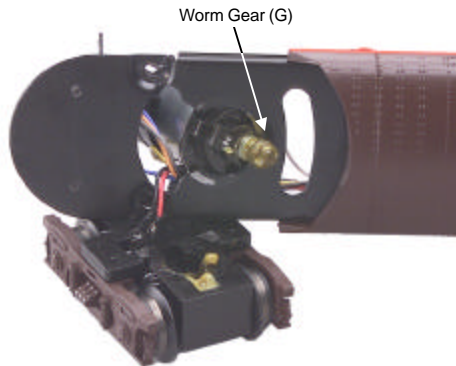

Figure 4a. Grease the Worm Gear
3. Once the motor mount screw has been removed, pull the motor away from the truck block and lightly coat the motor worm gear and bronze drive gear (in the truck block) with grease (See Figure 4a).